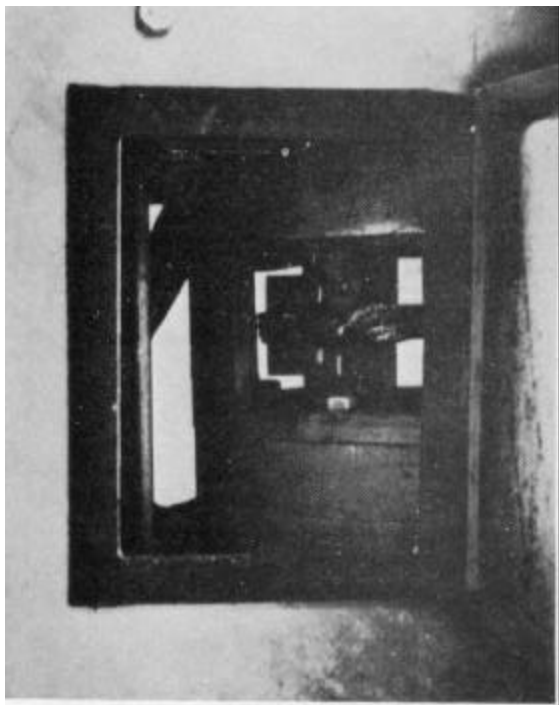

Figure 5-124
10. Open brush access door located on the electrical panel (Fig. 5-124).